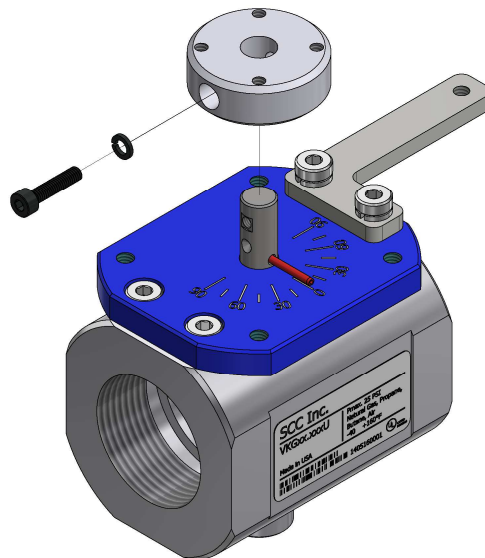

Figure 3: Crank Hub Installation
- Slide the crank hub over the valve shaft in the orientation shown in Figure 3. Rotate it so that the threaded hole in the crank hub lines up with the threaded hole in the valve shaft. Using a 3mm hex key and the M4 x 18mm socket head cap screw with lock washer, fasten the crank hub to the valve shaft.